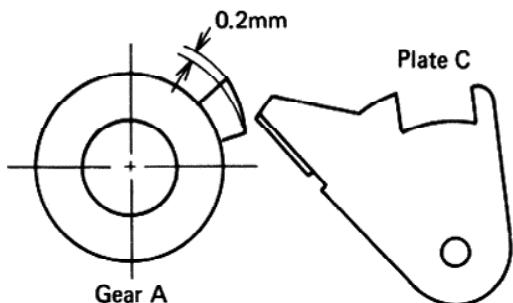
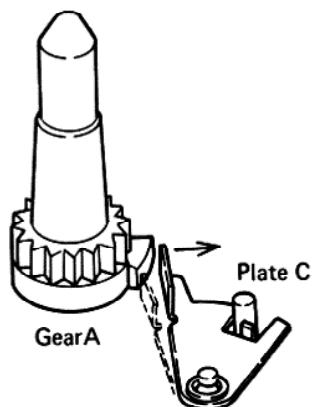

Fig. 12
Fig. 13
- The raised convex portion of gear A possesses a taper, as shown in Fig. 12. While stylus is within 1.5mm per platter rotation, this tapered portion pushed back on plate C (Fig. 13).